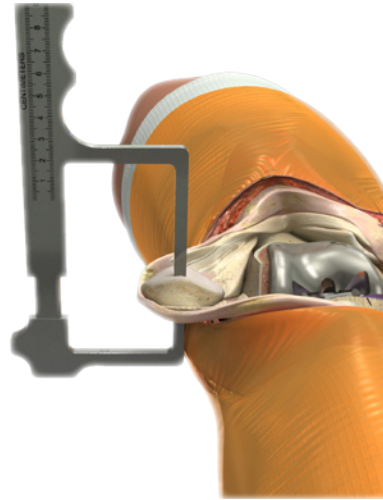

Figure 25
3. Measure patellar thickness with the patellar calipers (Figure 25).